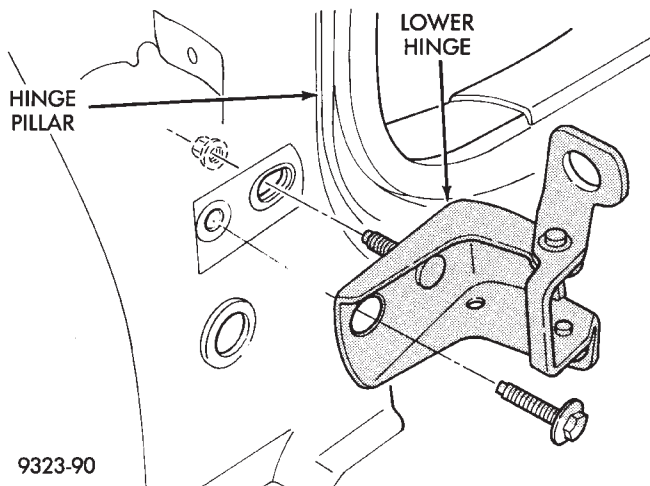

Fig. 25 Front Door Lower Hinge
- (4) On lower hinge, remove cowl side trim panel and remove nut holding hinge to back of hinge pillar (Fig. 25).
- (5) Separate hinge from vehicle.